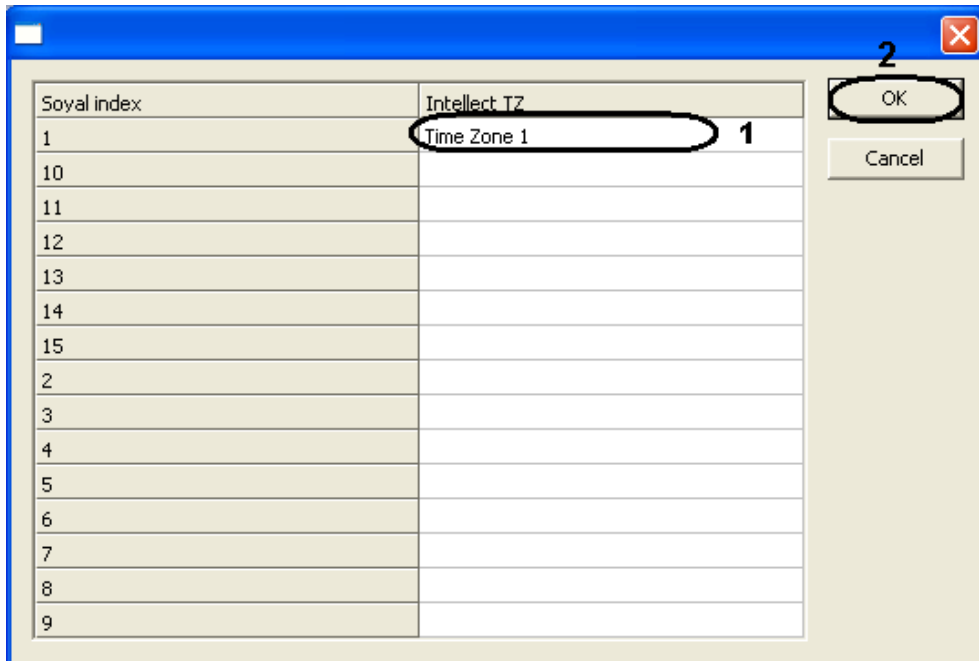

Figure 2.5—3 Setting up Time Zones
6. Click **Set up Time Zones** to configure the matching between time zones of device and time zones of Intellect Server (Figure 2.5—2, 5) .
- 6.1 In the **Intellect TZ** column select the time zone in *ACFA Intellect* corresponding to the time zone of Soyal device (Figure 2.5—3, 1).
- 6.2 Click **OK** to confirm changes (Figure 2.5—3, 2).
7. Click the **Read configuration** button to send the configuration from the AR-721 controller to the ACFA Intellect software (Figure 2.5—2, 6).
8. Click **Send Access Data** button to send information about user cards from the Intellect Server to the device (Figure 2.5—2, 8).